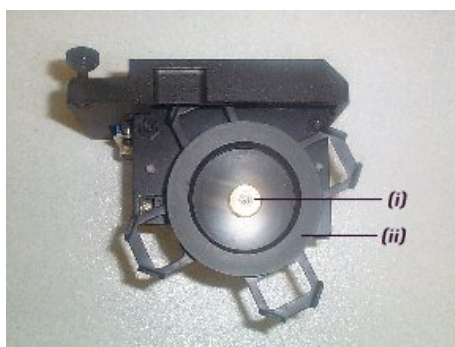

Figure 2. i) Knurled nut (ii) Polarizer locking wheel
- 1 Using your fingers, carefully unscrew the knurled nut (Figure 2 (i)) in the centre of the plastic polarizer locking wheel (Figure 2 (ii)) and remove the locking wheel from the accessory.